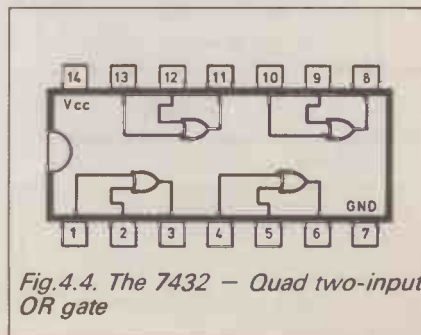

Fig. 4.4. The 7432 – Quad two-input OR gate
**S** The 7432 seems to have two-input OR gates (Fig. 4.4).